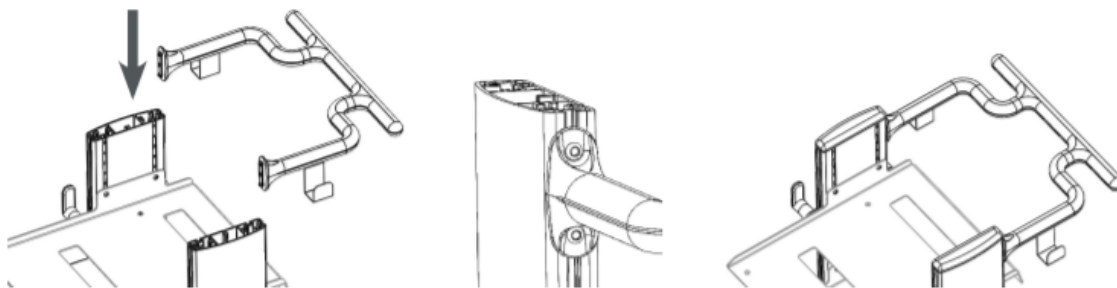

Figure 6 – Handle Assembly
- b. Tighten all 4 screws on the cart handle with the provided 4mm Allen wrench. See Figure 6 below.